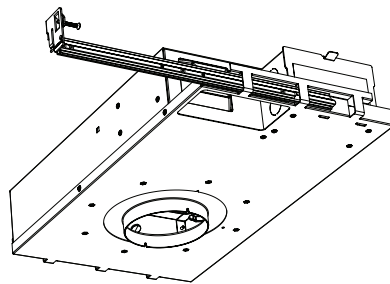

fig. 2
- c. Insert the inner hanger bar into the three housing clasps on the end of the D3 housing. Make sure the screw is on top (see fig. 2).